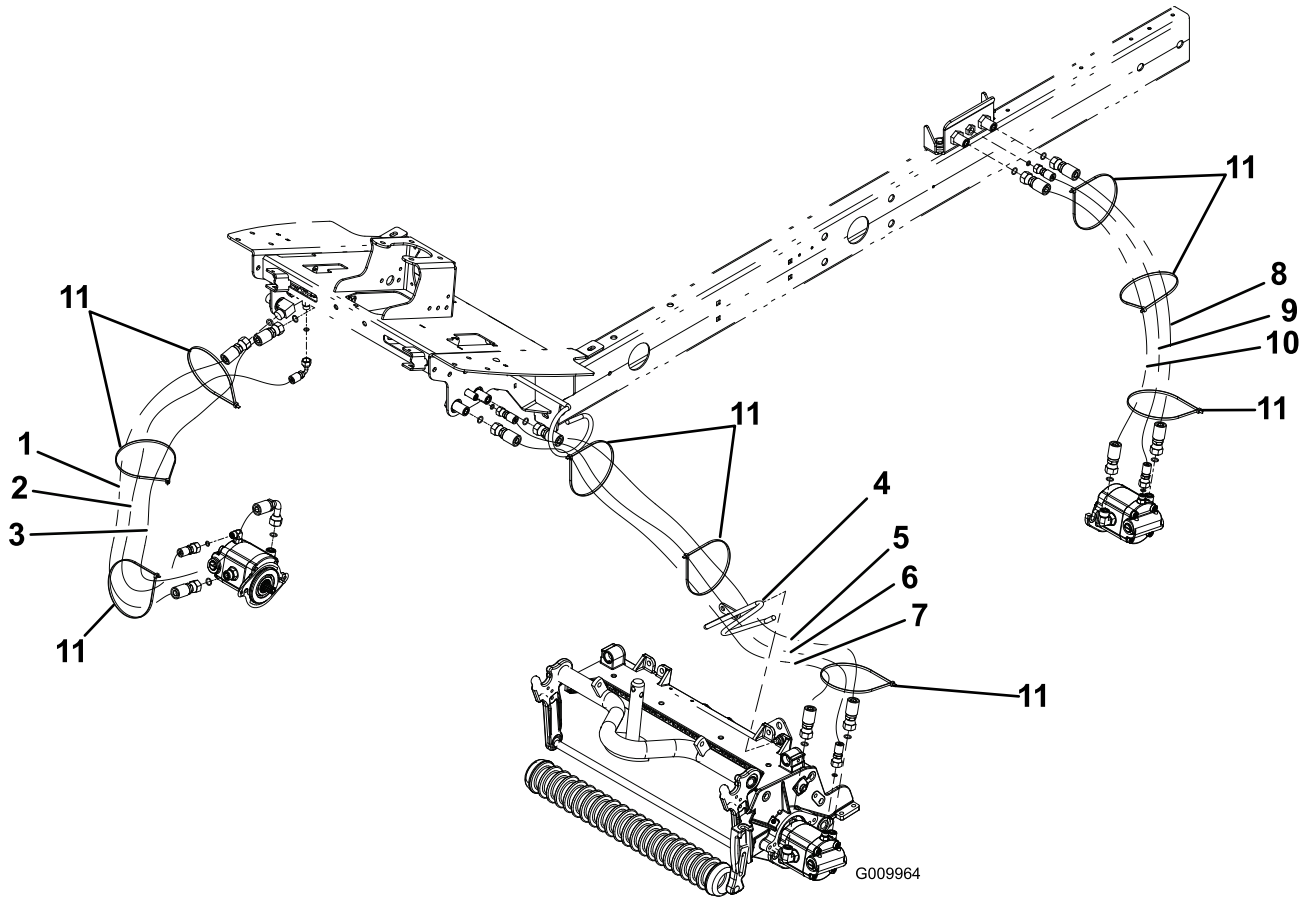

Figure 1
1. Locate and remove the hoses to be replaced as shown in Figure 1.
2. Replace the old hoses and O-rings with the appropriate new ones. The part number of each new hose is shown in Figure 1.
3. Install the cable ties as shown in Figure 1.